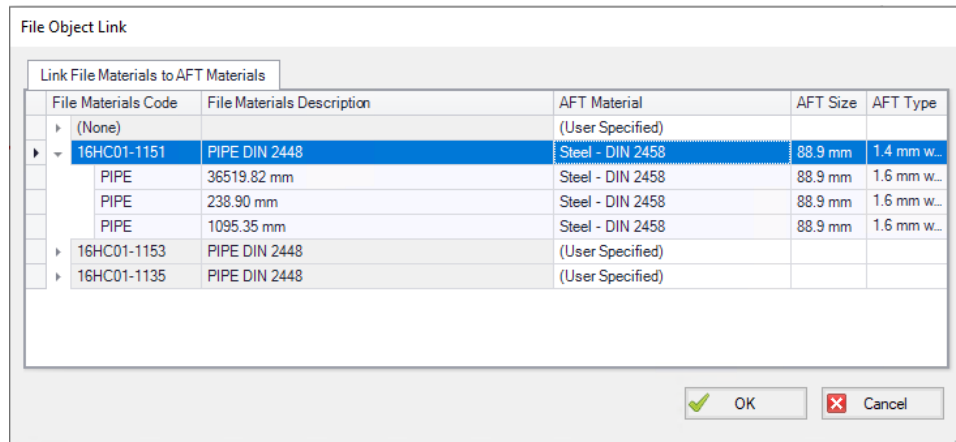

Figure 2: File Object Link window for Piping Component File Import
Pipes can be grouped by file schedules (i.e. item codes) or diameters, and are sorted by length within each group. The selection from the AFT Pipe Material library will overwrite any diameter information from the .pcf file. Selections made for a .pcf material will be applied to all pipes that reference that .pcf material. Pipes associated with each material can be seen by clicking the arrow on the left expand the group (Figure 2) and can be edited individually or as a group.
- **Pipes** - While the AFT Pipe Material Library contains many piping materials specified by ASME and ANSI, the Piping Component File format does not always contain these materials and material attributes can be defined within .pcf files in a number of drastically different ways. Because of this, materials, nominal sizes and schedules are not assigned automatically and can be assigned using Link Materials (shown above in Figure 2). Pipes can be grouped by file schedules (i.e. item codes) if they exist or by diameter so that pipe size and material can be applied to a group of pipes quickly. Pipe inner diameter is assigned from the nominal diameter defined in the pipe's coordinates within the .pcf file as a starting point, but any sizes assigned in Link Materials will override these inner diameters within the AFT model. Alternatively, pipes can be defined after import using Global Pipe Edit.